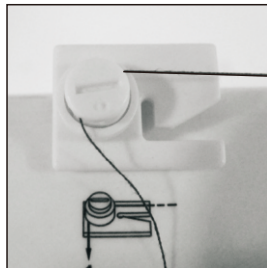

Fig. 21
2. Guide the thread through the bobbin winder tension disk on the upper side of the machine. (Fig.21)